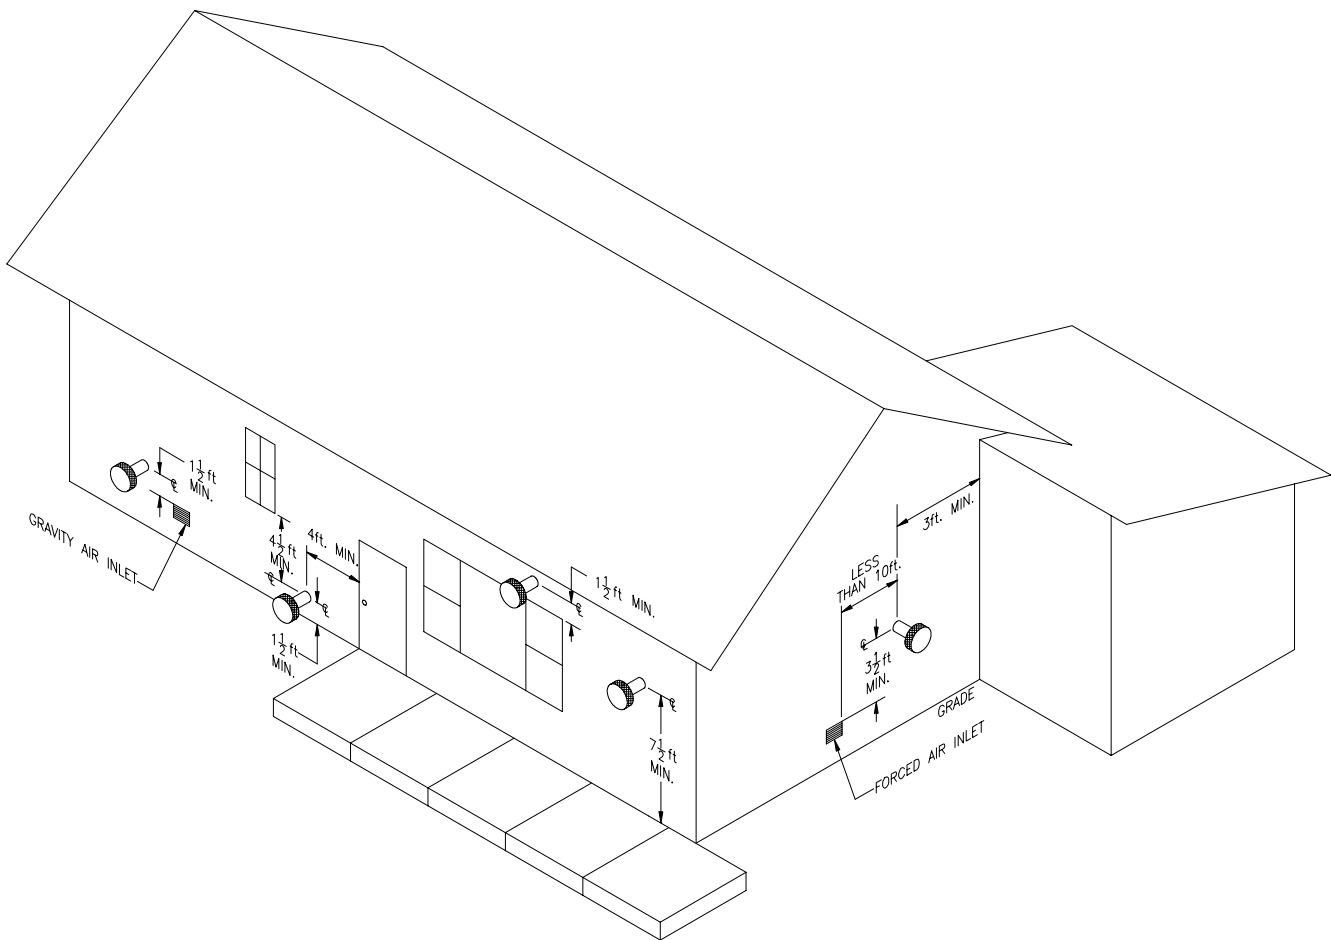

Figure 8: Vent Terminal Location
5. Vent Terminal Location (see Figure 8). Locate vent terminal so vent pipe is short and direct. The vent terminal must be located: